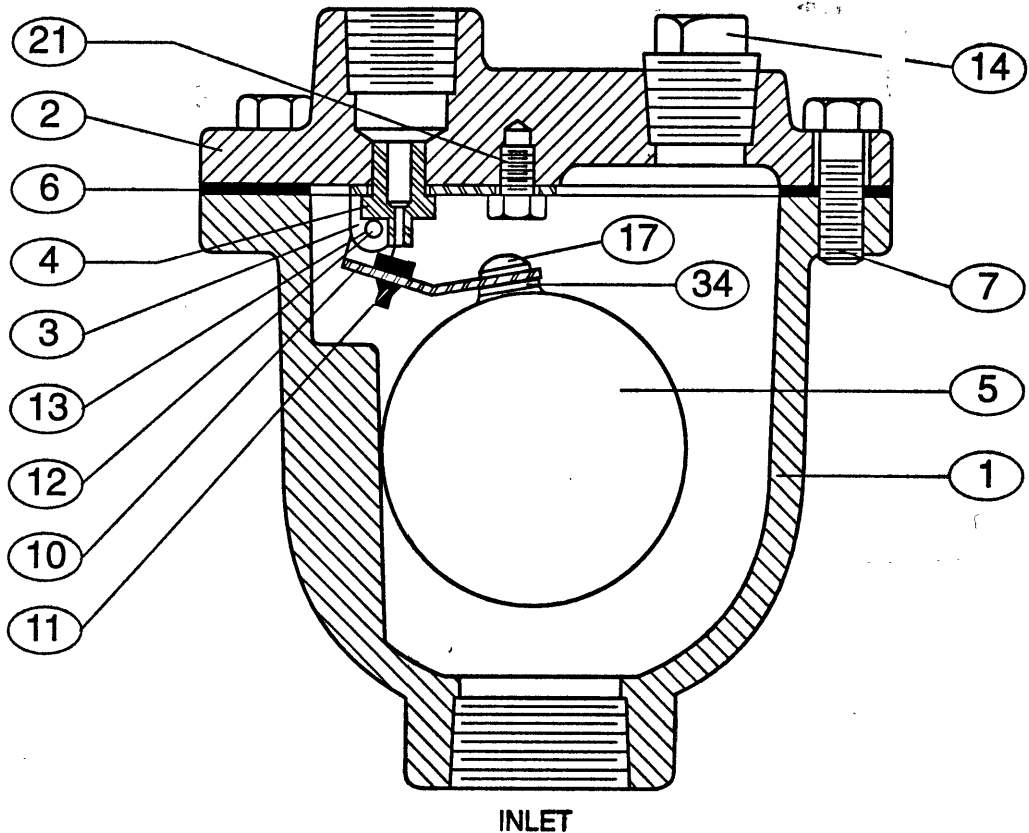

FIGURE 2. SIMPLE LEVER AIR RELEASE VALVE
The standard Air Release Valve body and cover are cast iron. See the specific Materials List submitted for the order if other than standard cast iron construction. All internal components are stainless steel with the exception of the orifice button which is resilient. The general details of construction are illustrated in Figure 2. The body (1) is threaded for connection to the pipeline. The seat (4) is threaded into the cast cover (2).
All parts must be cleaned and gasket surfaces should be cleaned with a stiff wire brush in the direction of the serrations or machine marks. Worn parts, gaskets and seals should be replaced during reassembly. Refer to Figure 2 on page 2.